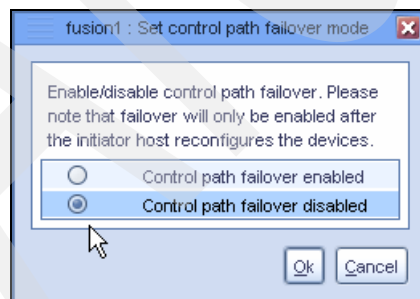

Figure 8-27 Set Control path failover disabled
3. Set the CPF mode to Control path failover disabled (see Figure 8-27).